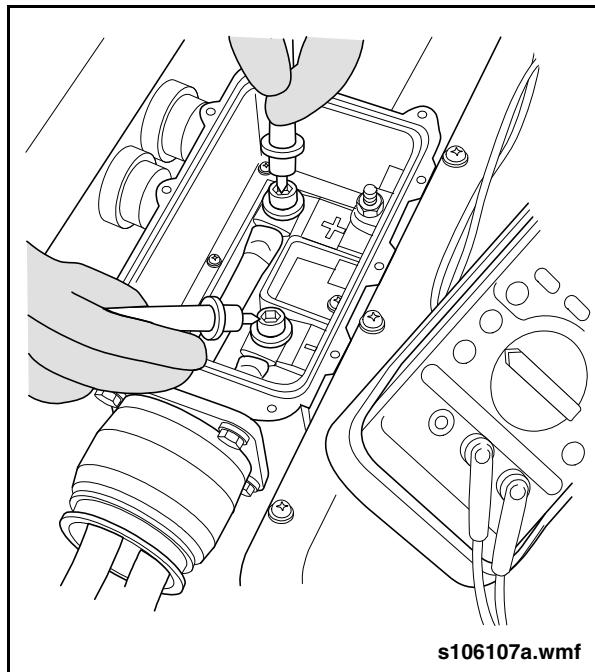

Fig. 57: Voltage Check Between DPIM DC HV Terminals
- a. DC positive to negative terminal. See "Fig. 57: Voltage Check Between DPIM DC HV Terminals" on page 4. Voltage reading must be less than 3VDC before work can continue.